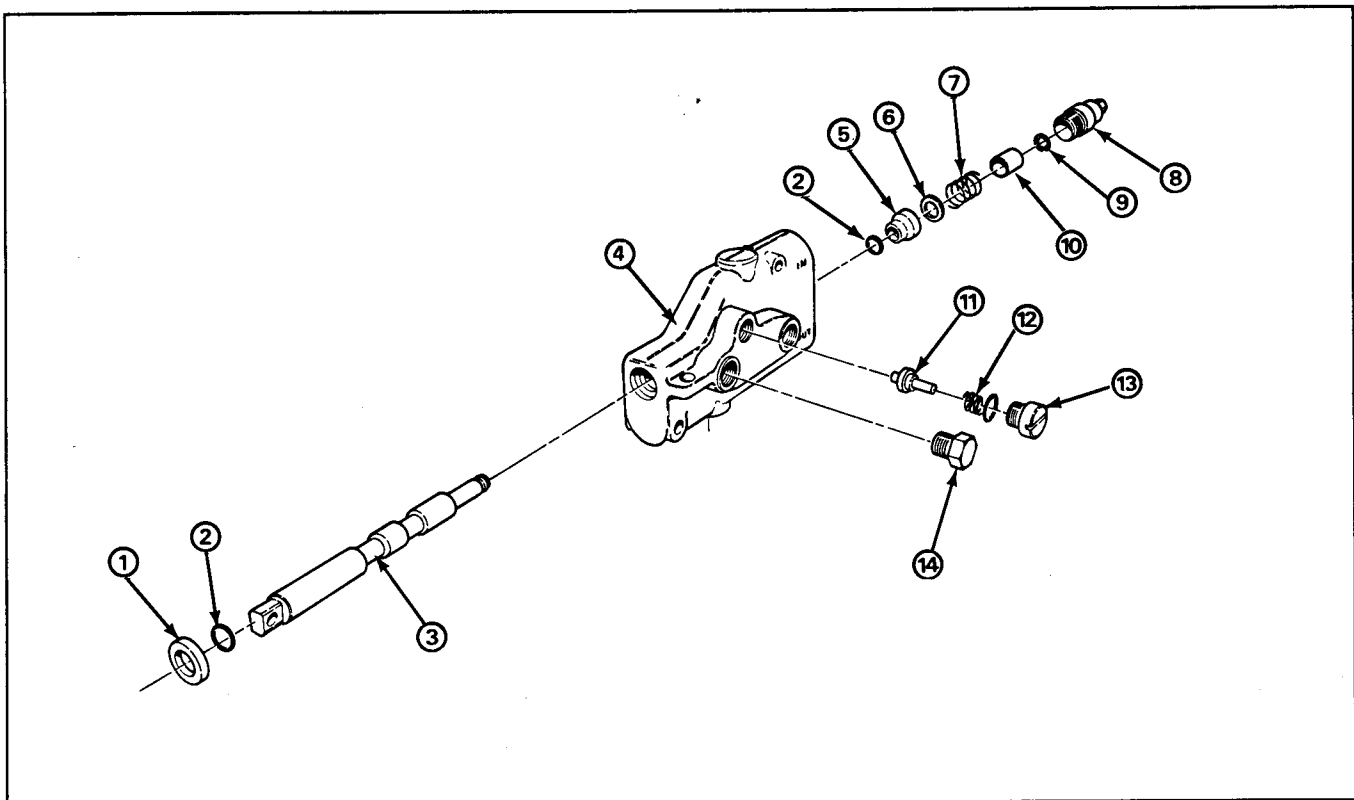

Figure 30
3. Remove the slotted plug from the side of the valve body. Within the valve body, beneath the hex cap plug, there is a spring and plunger; remove these parts (Fig. 30). Remove the hex plug. Remove the O-rings from the plugs.